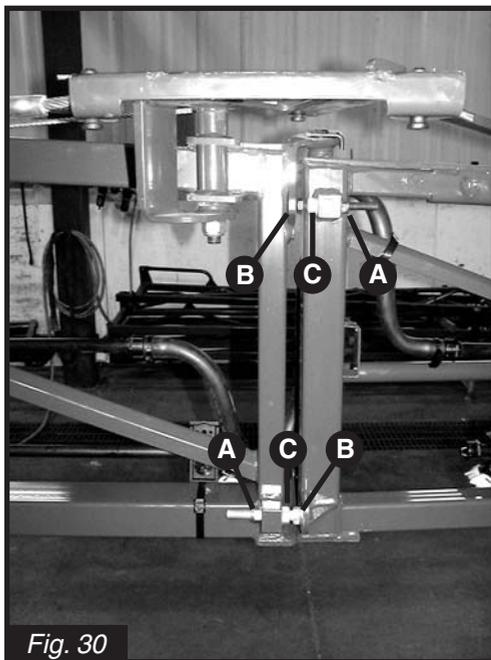

Fig. 30
1. Loosen the lock nuts (**A**)(Fig. 30) on both the upper and lower adjusting bolts (**B**)(Fig. 30).
2. Adjust the bottom jam nut (**C**)(Fig. 30) so the cap of the bottom M16x80 adjusting bolt contacts the stop plate with the outer and intermediate boom sections aligned.
3. Adjust the top jam nut (**C**)(Fig. 30) so the cap of the top M12x70 adjusting bolt contacts the stop plate without moving the alignment made in step 2.
4. Tighten both lock nuts (**A**)(Fig. 30) while holding the adjusting bolt heads (**B**)(Fig. 30). Make sure the outer and intermediate boom sections are still aligned. Readjust if necessary.